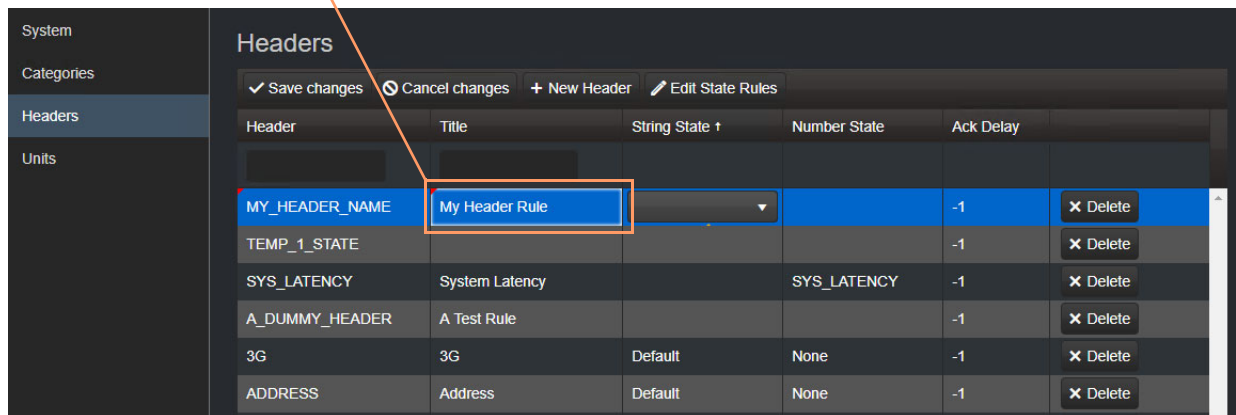

Fig. 2-22: Enter a Name (Title) for the Header Rule
- 4 Enter a Header rule name (title) for the new Header rule. See Figure 2-22.